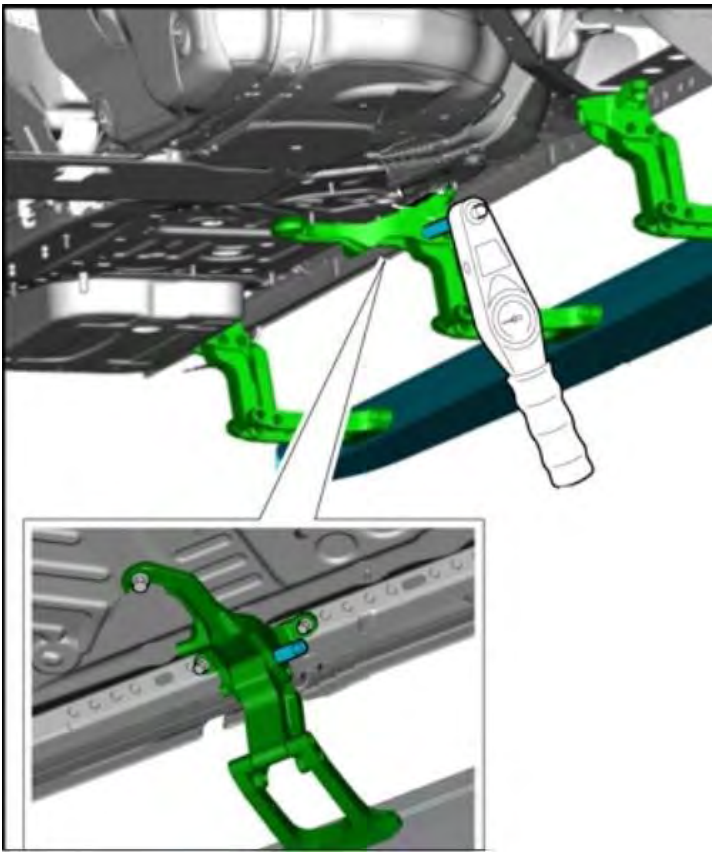

Figure 1
6. Remove both sill step motors and measure the deployment resistance – figure 1 - Refer to **Repair Group 66 - Exterior equipment – Accessories – Deployable sill steps – to fit. Video** the procedure and provide results.